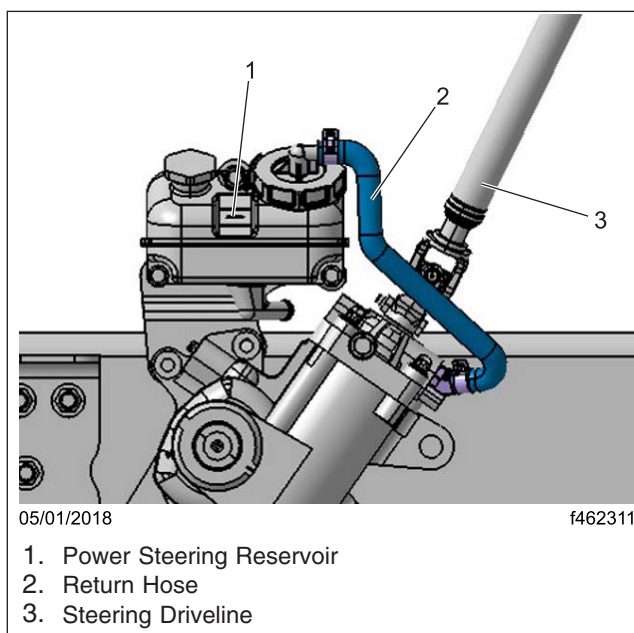

Fig. 1, Power Steering Return Hose Installation
10. Install the new return hose, and route it as shown in Fig. 1.